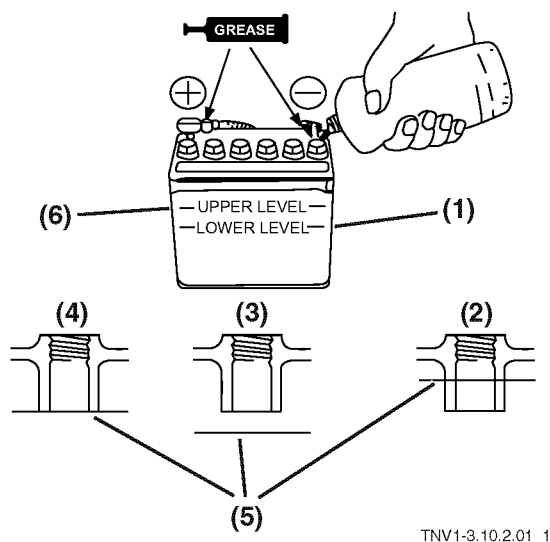

Figure 4-18
4. If the amount of fluid nears the lower limit (**Figure 4-18, (1)**), fill with distilled water (available locally) up to the upper limit (**Figure 4-18, (6)**) of the battery.